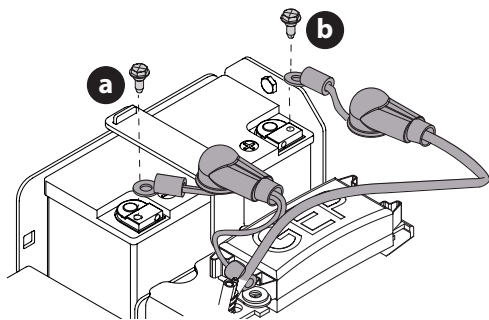

Figure 38
2. Remove the vertical mount bolt securing the black negative battery lead (a) to the negative battery post (marked NEG (-)). Move the cable away from the negative battery post (Figure 38).
3. Remove the vertical mount bolt securing the red positive battery lead (b) to the positive battery post (marked POS (+)). Move the cable away from the positive battery post (Figure 38).